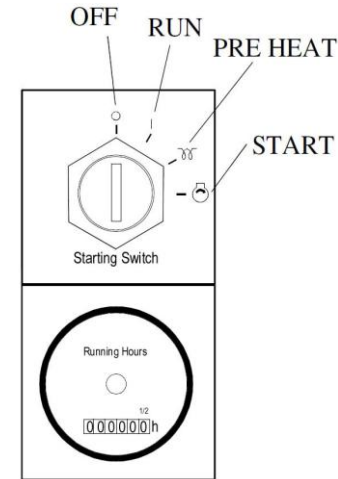

Figure 2. Main Panel for Electric Start Lister TR Engines, only
- Refer to Figure 2. Turn the ignition key to ON position.